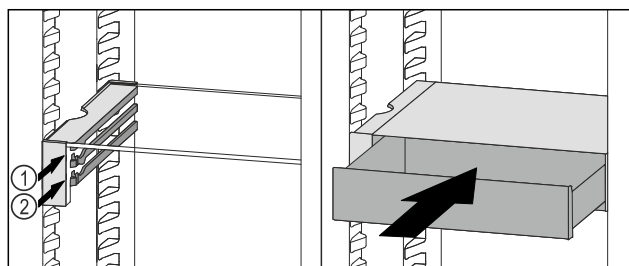

Fig. 138
- Place the VarioSafe drawer behind the stoppers on desired rib *Fig. 138 (1)* or *Fig. 138 (2)*.